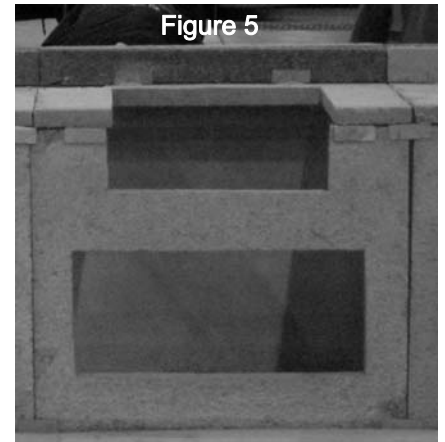

Figure 5
7. Using a marking pencil, draw the location of each appliance to be installed. Once you are satisfied with the layout, use a saw with a masonry or diamond blade to cut out the sections where the appliances will be placed (refer to Figure 5). Appliances may be installed before or after the application of the exterior finish.